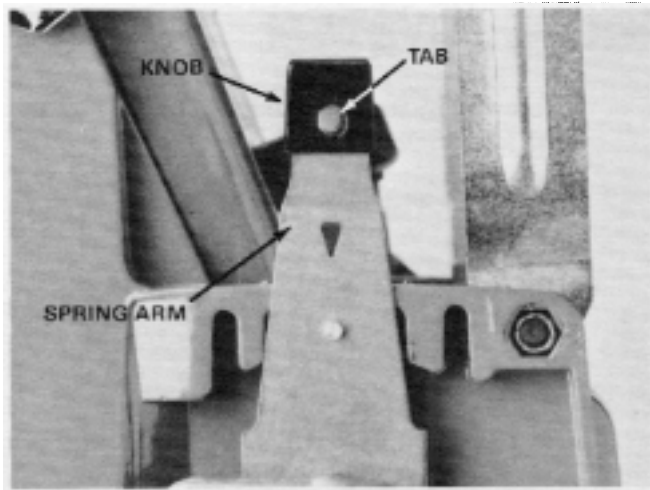

Figure 38
1. If necessary, reassemble the spring arms by installing a knob on top of the spring arm. Make sure that the tab on the top of the spring arm rises at least 1.5 mm (.060") above the spring arm. Install the knob so that the concave part of the knob and the concave part of the rivet are on opposite sides. See Figure 38.